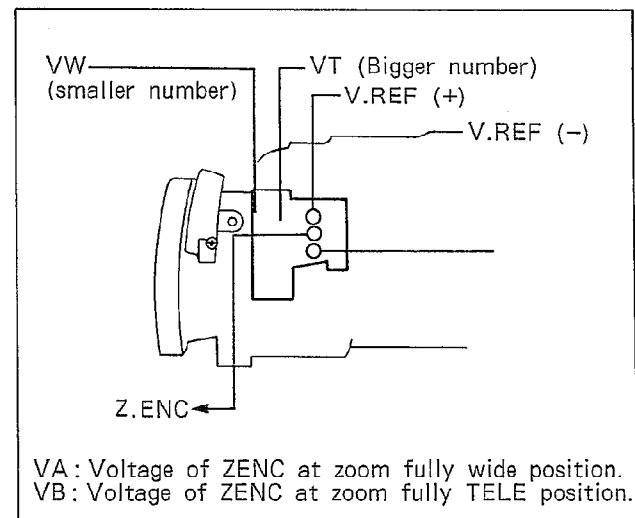

Fig. C16
VA = Centre voltage of three test round (ZENC) at zoom wide position. (refer to Fig. C16)
- (2) Take memo the above result of calculation
- (3) Set the zoom to fully TELE position
- (4) Connect the probe of volt meter to V.REF (+) (see Fig. C16) and measure the voltage.
- (5) Using E.V.R, change the data of D/A address to "25" with command "01" so that voltage at V.REF (+) become same as a result of calculation as follows :
- * Measure the voltage at V.REF (+) (see Fig. C16)
- (6) As the same way, set the zoom to fully WIDE position.
- (7) Measure the voltage at V.REF (-) (See Fig. C16).
- (8) Change the D/A address to "26" (with command "01") and increase or decrease the data by pushing "INC" or "DEC" so that voltage at V.REF (-) become same as a result of calculation. Then, push "SHIFT 1" and "0" keys together to write the data. :
- (1) Calculate the following formula with measuring the each voltage. (Refer to Fig. C16) and take note the result.
- (2) Set the zoom to fully TELE position.
- (3) While measuring the voltage at ZENC (see Fig. C16), Change the data of D/A address "25" with command "01" so that voltage at ZENC become same as a result of calculation and when ZENC voltage comes same as result of calculation ,write its data by pushing "SHIFT 1" and "0" keys together.
- * Measure the voltage at ZENC (see. Fig. C16)
- (4) Set the zoom to fully wide position.
- (5) While measuring the voltage at ZENC (see Fig. C16), change the data of D/A address "26" with command "01" so that voltage at ZENC become same as a result of calculation and write its data by pushing "SHIFT 1" and "0" keys together.